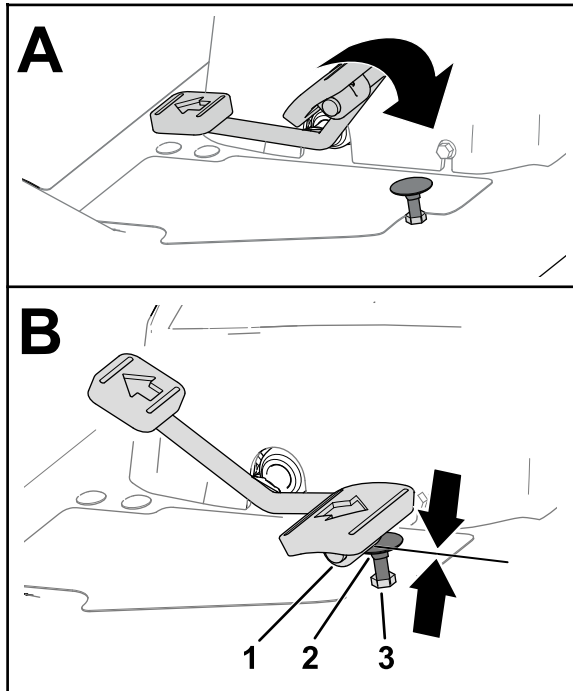
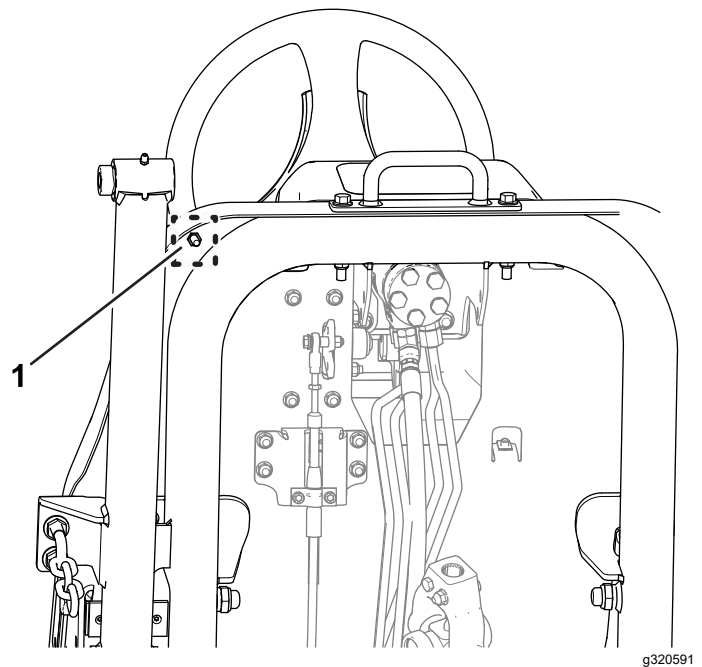

Figure 76
Figure 77
1. Move the traction pedal fully forward (Figure 76).
- A. Hold the traction-pedal stop (Figure 76) with a wrench.
- B. Loosen the jam nut at the bottom of the footrest plate (Figure 77).
- C. Move the traction pedal to the full forward position (Figure 76).
- D. While holding the traction-pedal stop, adjust the jam nut that is above the footrest plate (Figure 76) until the traction pedal makes contact with the stop.
- F. While holding the traction-pedal stop, torque the jam nut at the bottom of the footrest plate (Figure 76 and Figure 77) to 37 to 45 N·m (27 to 33 ft·lb).